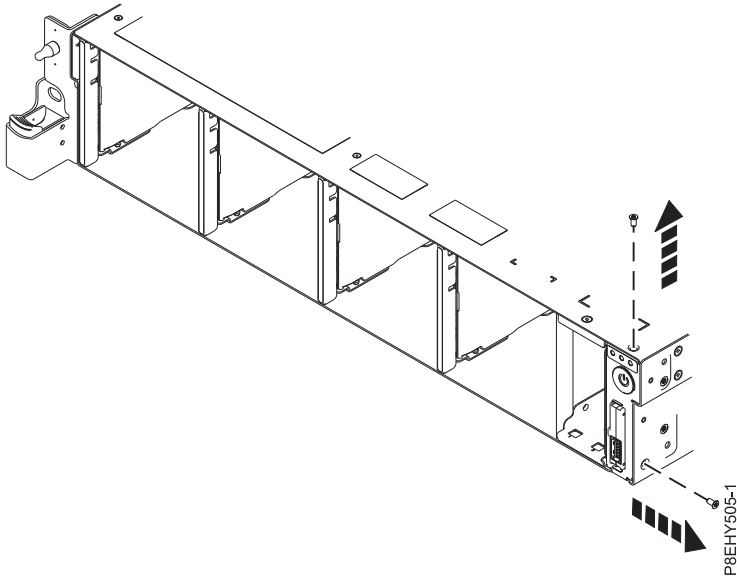

Figure 21. Remove the top and side screws
8. Remove the top and side screws from the power switch. See Figure 21 on page 26.